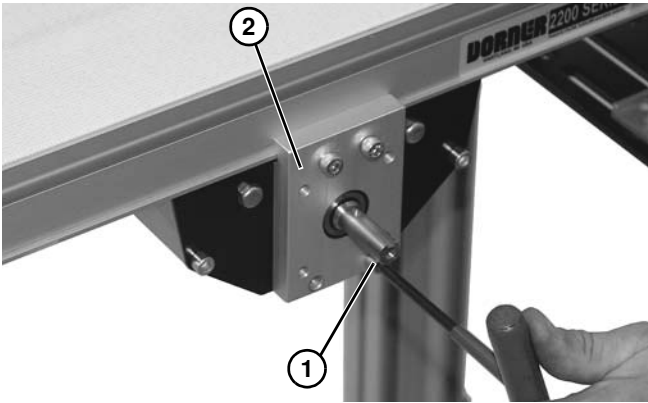
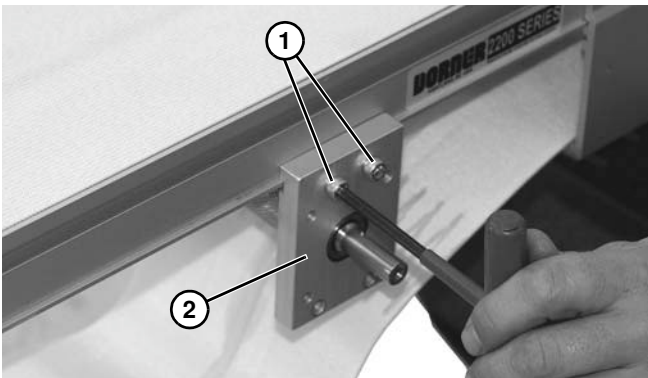

Figure 72
Figure 74
3. Loosen one socket head screw (**Figure 72, item 1**) from each side of mounting block (**Figure 72, item 2**).
5. Loosen two socket head screws (**Figure 74, item 1**) from each side of mounting block (**Figure 74, item 2**).
10. Tighten socket head screws (**Figure 72, item 1**) and (**Figure 74, item 1**) to 7 Nm.